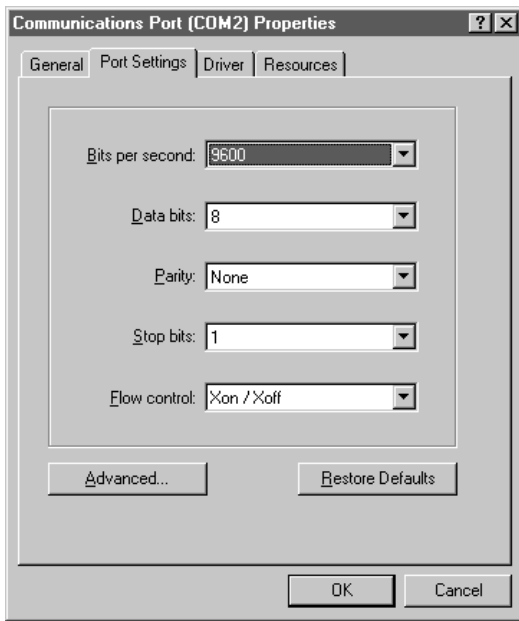

Figure 8-7: COM Port Properties Dialog Box
12. This should bring up the dialog shown in Figure 8-7.